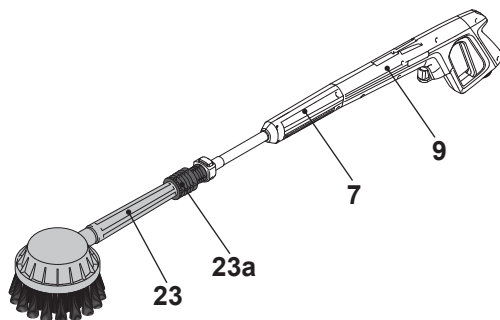

Fig. 10
- Attach the extension lance (7) onto the spray gun (9) (Fig. 10).
- Attach the rotary brush (23) onto the extension lance.